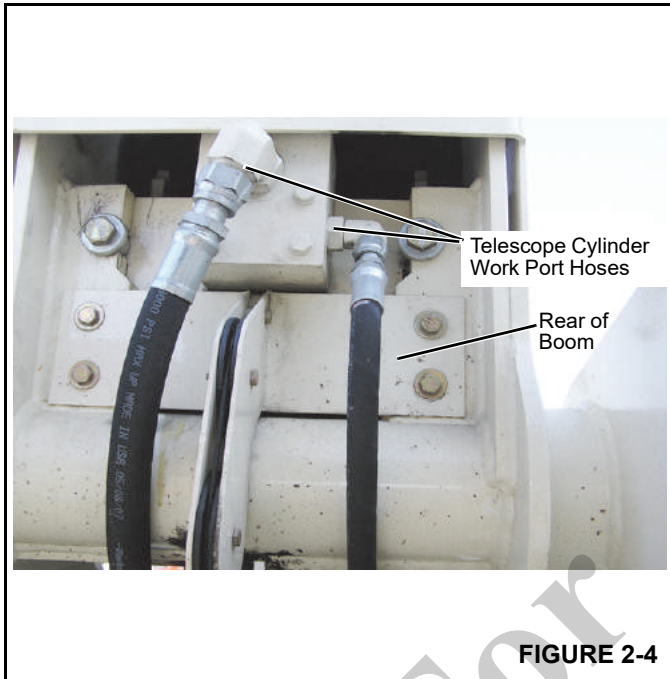

FIGURE 2-4
1. Remove the extend and retract (work port) hoses from the telescope cylinder (Figure 2-4) and cap the telescope adapters.